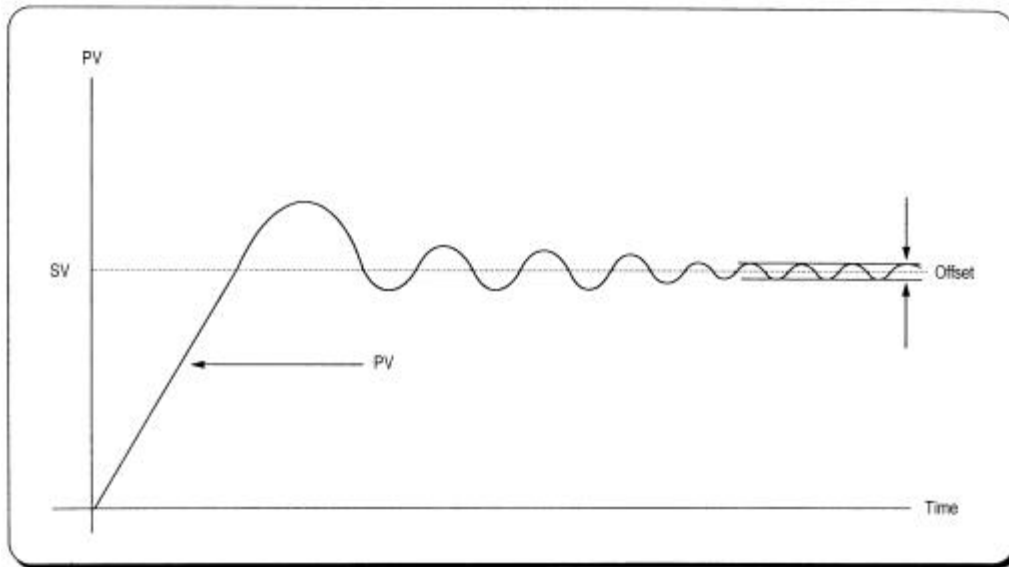

Fig. 15.2 When the proportional constant (K_p) is large
- 3) IF the Kp is too large, the PV reaches to the SV swiftly, but it may cause a bad effect like oscillations shown in the Fig. 15.2